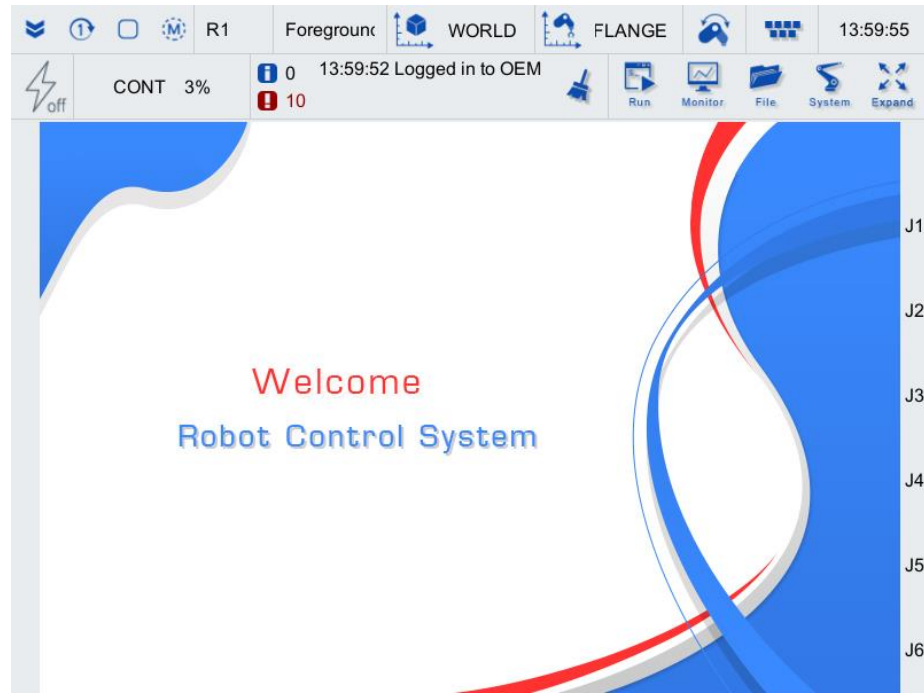

Figure 3-1 Teach Pendant Main Interface
Step 1. Log in to the teach pendant with the authority above "Teacher" and enter the main interface of the teach pendant as shown in Figure 3-1.